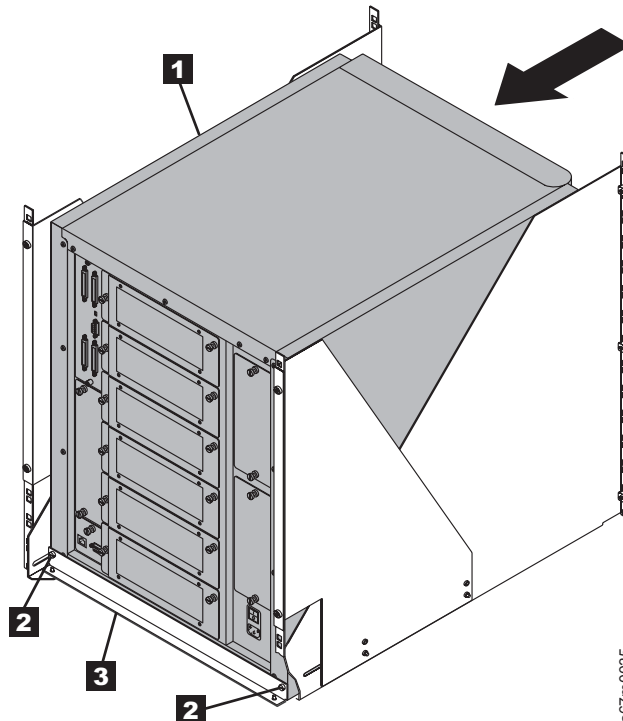

Figure 14-20. Placing the library into a rack (illustration shows converted library)
2. Slide the library (**1** in Figure 14-20) onto the rackmount hardware until it stops against the rear stop bracket **3**. Using the two Phillips screws **2**, attach the library to the rear stop bracket **3**. This ensures that the library is secured to the rack and is properly grounded.